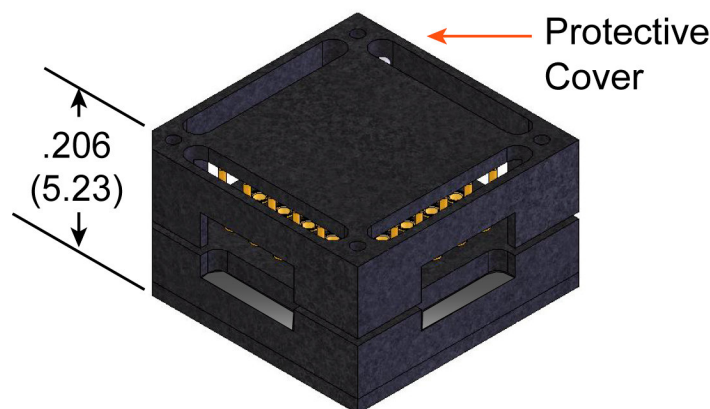

Fig. 5
Each half of the connector system (socket half and adapter half) consist of a male terminal, a female shell with a 3 finger contact, and an insulator [see Figs. 1A and 1B]. The socket and/or adapter may also contain a solder sphere in either Tin/Lead or lead-free compound. The "socket" is the portion of the connector system that would typically be mounted to the PC board (motherboard). The "adapter" would either have a BGA/LGA device attached to it, in device socketing applications, or be attached to a daughter card in board to board applications. The socket and adapter are shipped with a protective (pick and place) cover [see Fig. 5] that is removed after the solder-attach process and before product usage. This cover can be left in place for storage or for protection of the male terminals during the handling processes.
- 3.8 A protective cover is standard on this product and is designed to function as a pick and place cover and a terminal protection cover. This cover needs to be removed before the product can be put into use, but only after the solder reflow procedure has taken place. [Fig. 5]